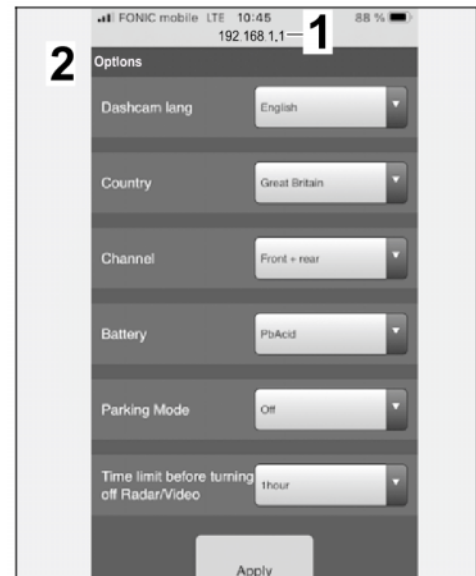

Figure 17
Options: (⇒ *Figure 17*)
5.3 Basic settings for front camera (dashcam) in the "Options" menu item (⇒ *Figure 17*)